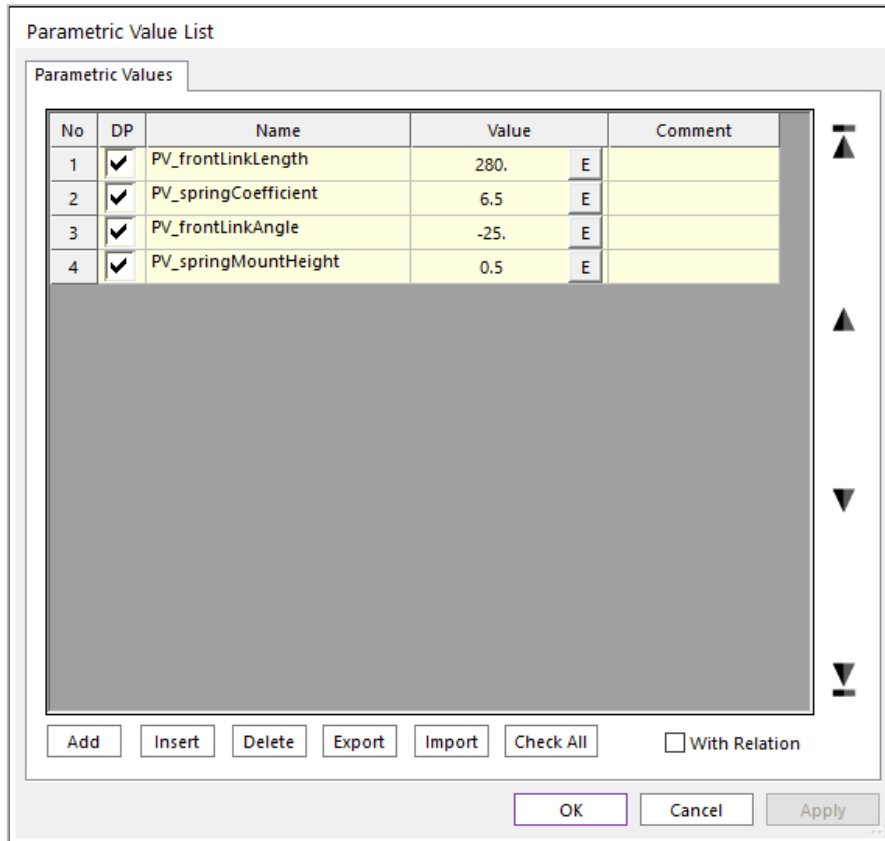

Figure B-2.1-1 Parametric Value List
1. In the **Database** window, double-click on one of the items under **Parametric Values** shown in **Figure B-2.1-1**.